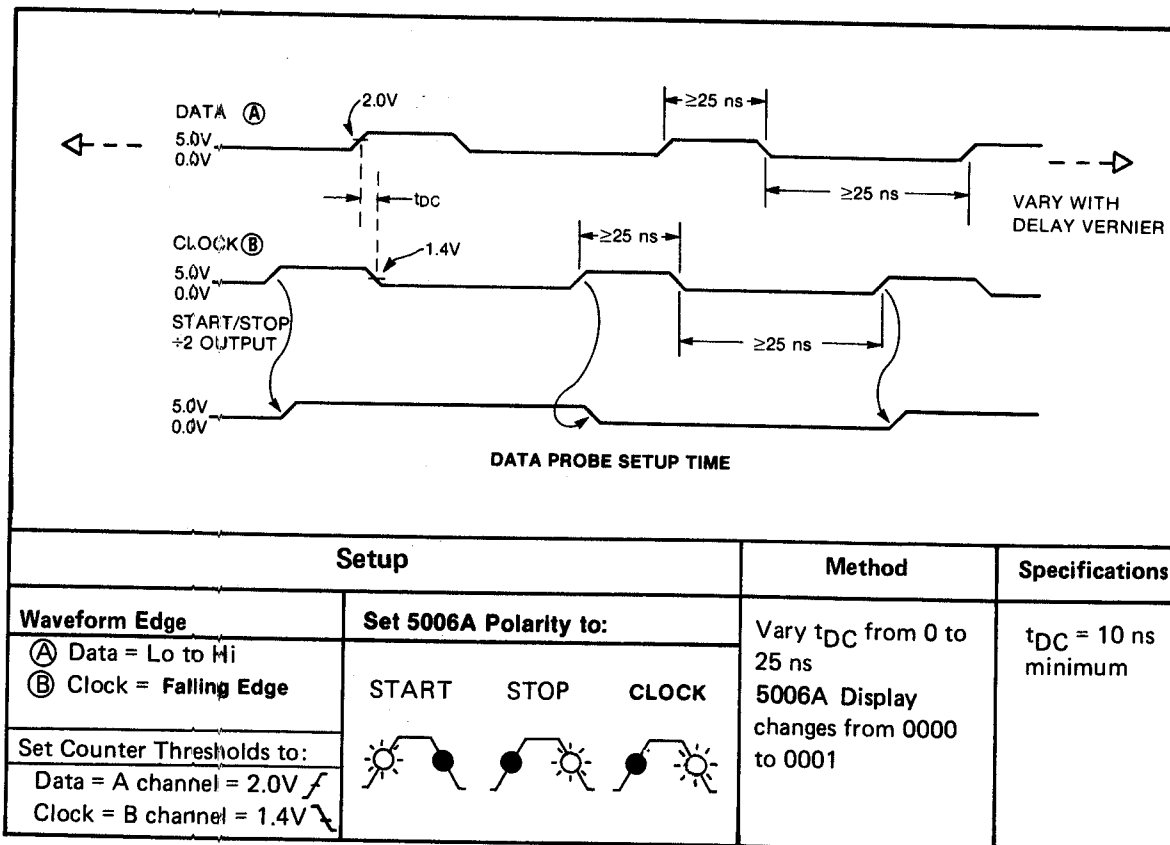

Figure 4-5. Data Probe Setup Time - Test 2
i. Repeat the procedure described in step h., for the remaining three tDC tests, changing the tested slope edges as indicated in Figures 4-5 through 4-7. Record the results on the Performance Test Record.